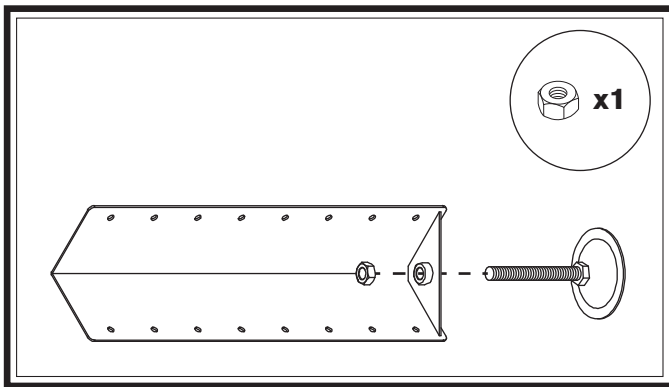

Figure 3. Attaching foot pad to lower support leg.
- Attach each foot pad to each lower support leg using (1) 1/2"-13 hex nut (see **Figure 3**).